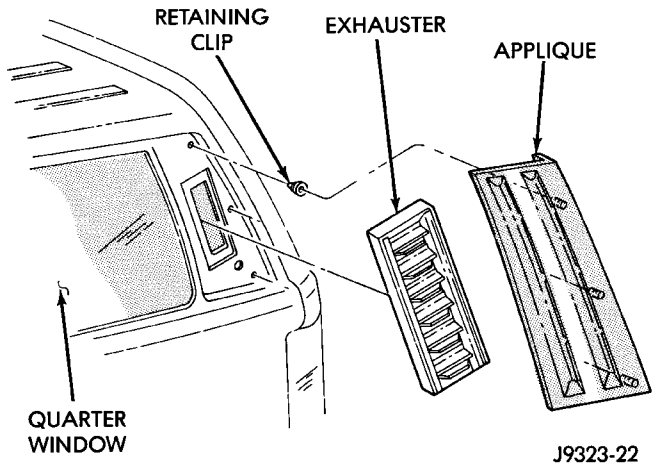

Fig. 72 Quarter Window Applique & Air Exhauster
- (1) Using a trim stick, carefully pry applique from panel (Fig. 72).
- (2) Carefully pry air exhauster from upper quarter panel using a flat blade screwdriver.